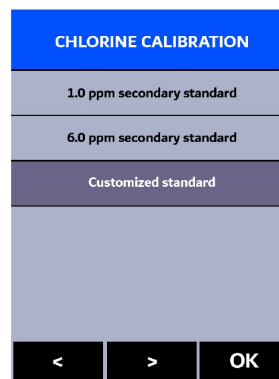

Figure 41.
6. Use **<** and **>** to cycle to "Customized standard" (Figure 41).